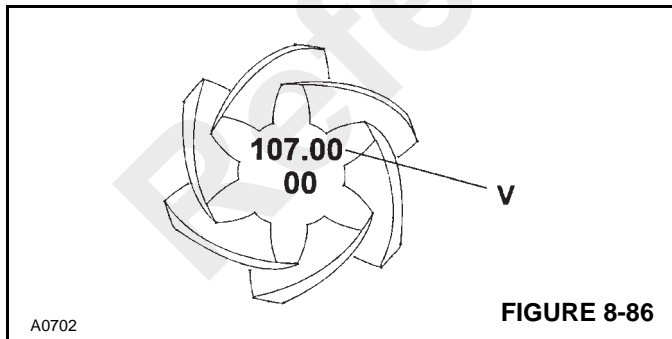

FIGURE 8-86
- Subtract the (**V** - requested conical distance) value stamped on the pinion head (Figure 8-86) from the measured (**X**) value.